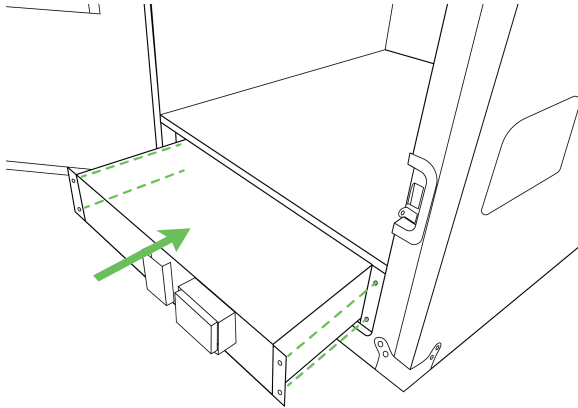

Figure 6-10. Aligning the UPS
5. Slide the UPS into the lower UPS compartment and push it back so that the installed L-brackets align with the box's bracket holes (Figure 6-10).